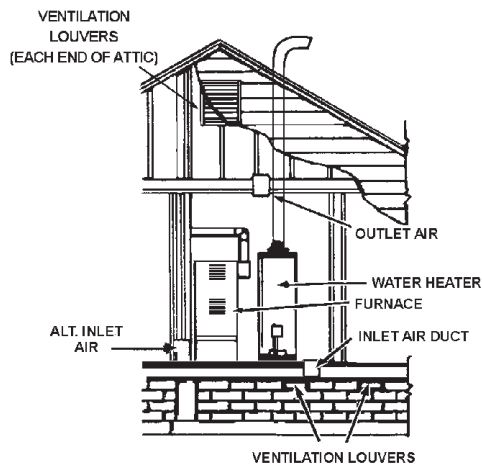

FIGURE 7.
B. ALL AIR FROM OUTDOORS: (See Figures 7, 8 and 9)
1. When directly communicating with the outdoors, each opening shall have a minimum free area of 1 square inch per 4,000 Btu per hour (5.5 cm²/kW) of total input rating of all equipment in the enclosure, see Figure 7.